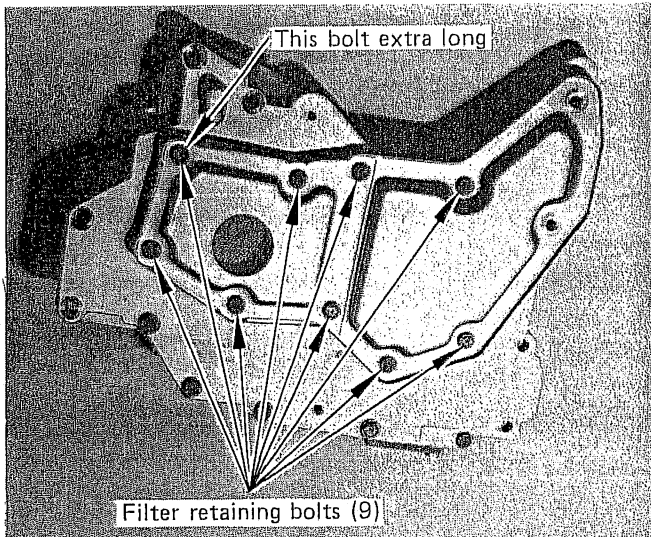

FIGURE 4
STEP 6. Turn the valve body over and remove the filter retaining bolts. (See Fig. 4) These are long bolts with one bolt being extra long. Remove filter and gasket.
STEP 19. Install new filter and gasket. (Note: Some C-6 transmissions are factory equipped with an extension tube as part of the filter. In these applications the B&M filter should not be used. The stock filter should be washed in solvent and reinstalled in the transmission.) Install eight long filter bolts and one extra-long filter bolt. (See Fig. 4) Align two large filter bolt holes with casting and tighten bolts to 30-45-in.lbs.